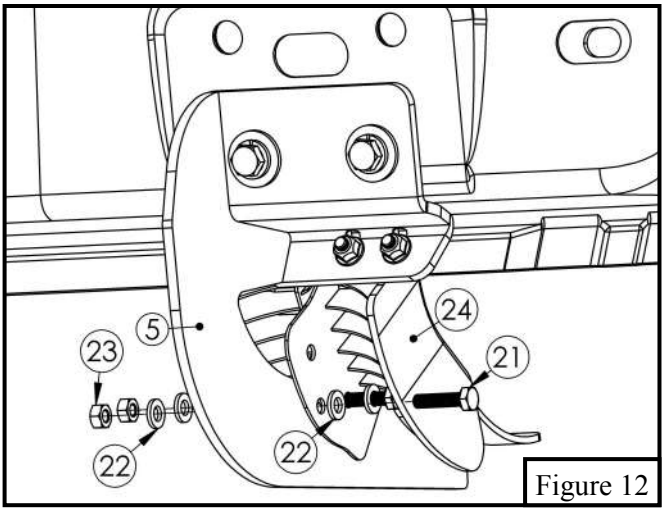

Figure 12
12. Locate (1) plastic bracket cover (Item 24) and loosely secure it to the (6) brackets using the provided hardware: (2) M6 hex head cap screws, (4) M6 flat washers, and (2) M6 nylon nuts. Repeat for every bracket. See **Figure 12**.